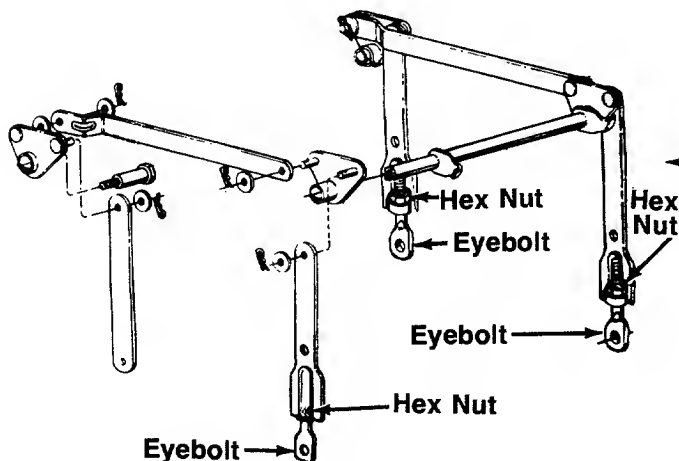

FIGURE 5.
1. Start 1/2" hex nuts on eyebolts provided. Insert the hex nuts and eyebolts into the adjustable lift links as shown in figure 5.